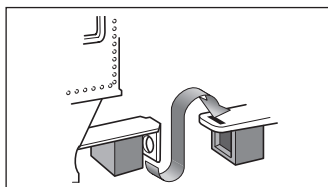

Figure 1. Drawbar connection
2. **Place your locomotive on Lionel or Lionel-compatible 0-31 or larger track and connect the drawbar between the locomotive and tender as illustrated in Figure 1.**
1. **Place your locomotive on Lionel or Lionel-compatible 0-31 or larger track and connect the drawbar between the locomotive and tender as illustrated in Figure 1.**
2. **Power your locomotive at 12-18 volts with your alternating current (AC) transformer.**